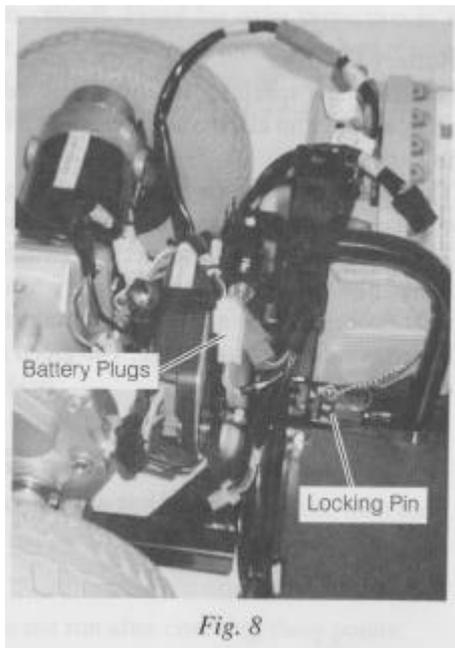

Fig. 8
5. Disconnect the battery plugs and the orange multi-plug by depressing the small lip on the plugs (Fig. 8).
7. Remove the locking pin and separate the rear drive unit (Fig. 8).